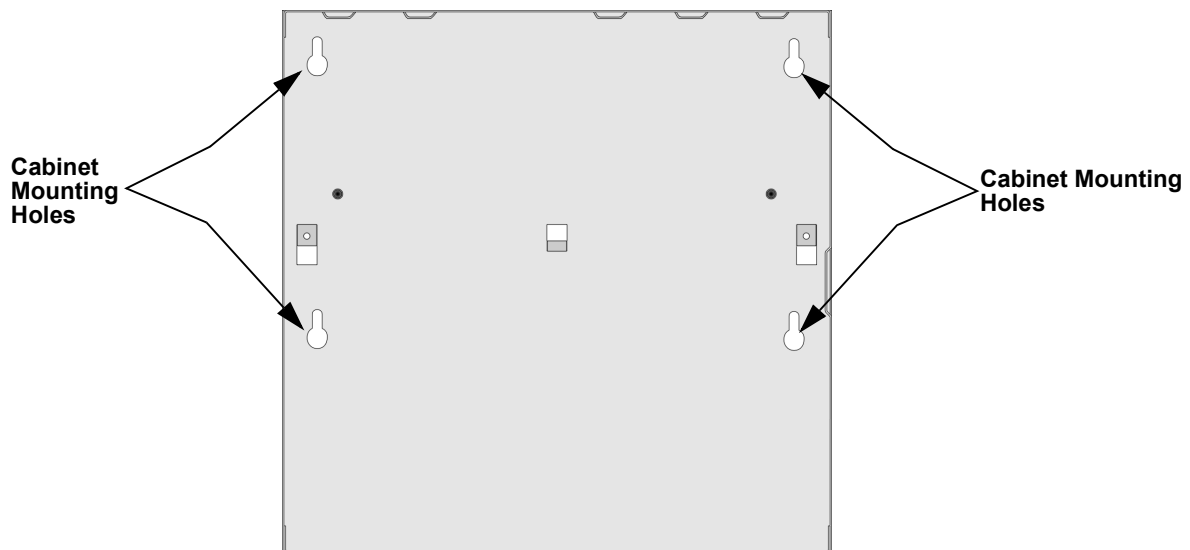

Figure 7-3 Cabinet Mounting Hole Locations
6. Mount the cabinet using the appropriate screws and anchors, through the cabinet mounting holes. See Figure 7-3.